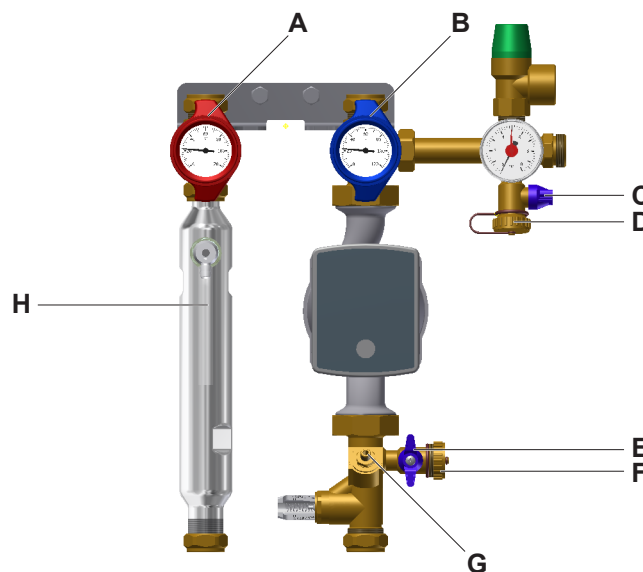

Fig. 7: Filling and rinsing connection
- Open the ball valve (Pos. C, see Fig. 7 on page 12) at the supply line.
- Open the supply line ball valve (multifunction armature, Pos. A, see Fig. 7 on page 12) by rotating the thermometer handle (see “ thermometer handle settings” on page 6).
- Close the return line ball valve (multifunction armature, Pos. B, see Fig. 7 on page 12) by rotating the thermometer handle (see “ thermometer handle settings” on page 14).
The multifunction armature of the supply and return line (multifunction armature, Pos. B, see Fig. 7 on page 12) can be opened at 45° (emptying position, see Fig. 7 on page 12) if required.
- Open the regulating and gate valve (Pos. G, see Fig. 7 on page 12).
- Open the return line ball valve (multifunction armature, Pos. B, see Fig. 7 on page 12) during the rinsing and filling process 2-3 times to vent the circulation pump.
- Close the filling and emptying valve (Pos. E, see Fig. 7 on page 12).
- Close the filling and emptying valve (Pos. C, see Fig. 7 on page 12)
- Open the return line ball valve (multifunction armature, Pos. B, see Fig. 7 on page 12) by rotating the thermometer handle (see „thermometer handle settings” on page 14).
- Remove the filling hose (pressure hose) of the external rinsing and filling pump from the supply line (Pos. C, see Fig. 7 on page 4) and the rinsing hose from the return line (Pos. F, see Fig. 7 on page 4) of the safety valve and screw the caps to the connections.
- Check the Fig. 7 on page 12 for tightness.
- Open the supply and return line ball valves (multifunction armatures, Pos. A+B, see Fig. 7 on page 12) completely.